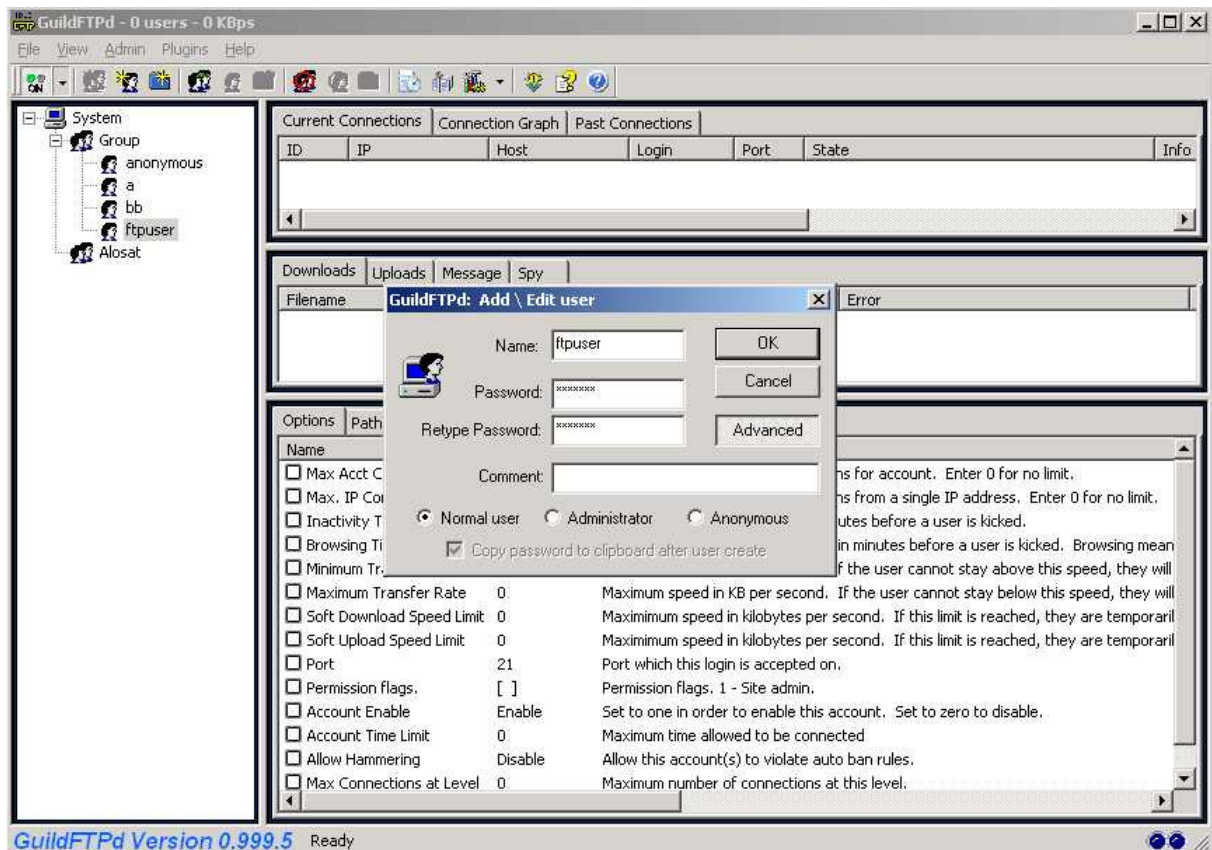

Figure 35. Activate a user account
3. After the user account is created, select the user account, and then click the icon “**edit user**” in the tool bar. Switch to Advanced Mode by clicking the bottom “**Advanced**” button in the “**edit user**” window, as shown in Figure 35. Press “**Yes**” for confirmation.